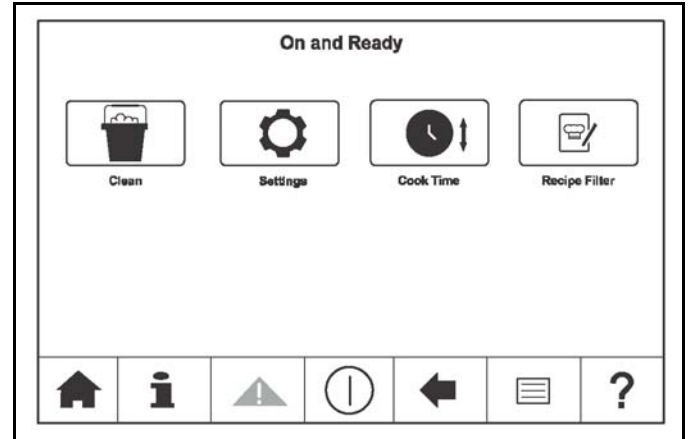

Figure-28
13. Select the Cook Time key . See Figure-28.